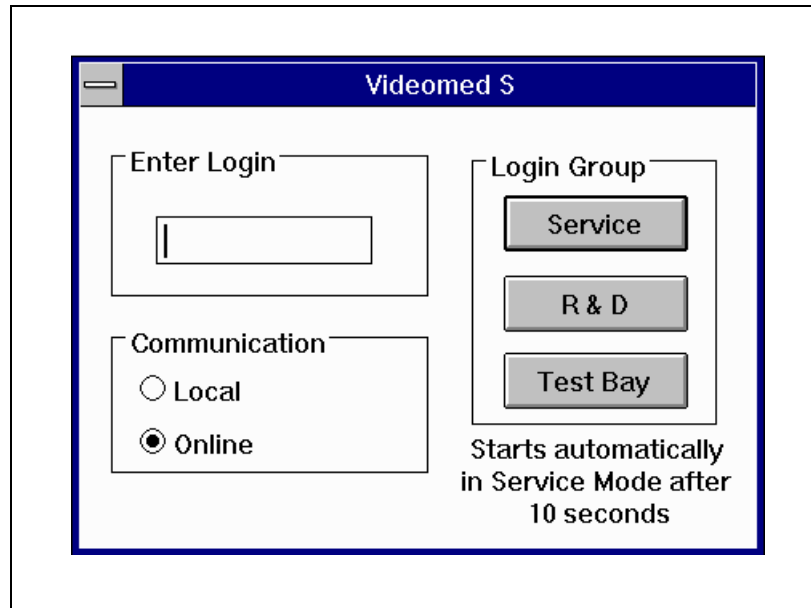

Fig. 2
- Click **"Service"** or the service program will automatically start after approx. 10 seconds (Fig.2).